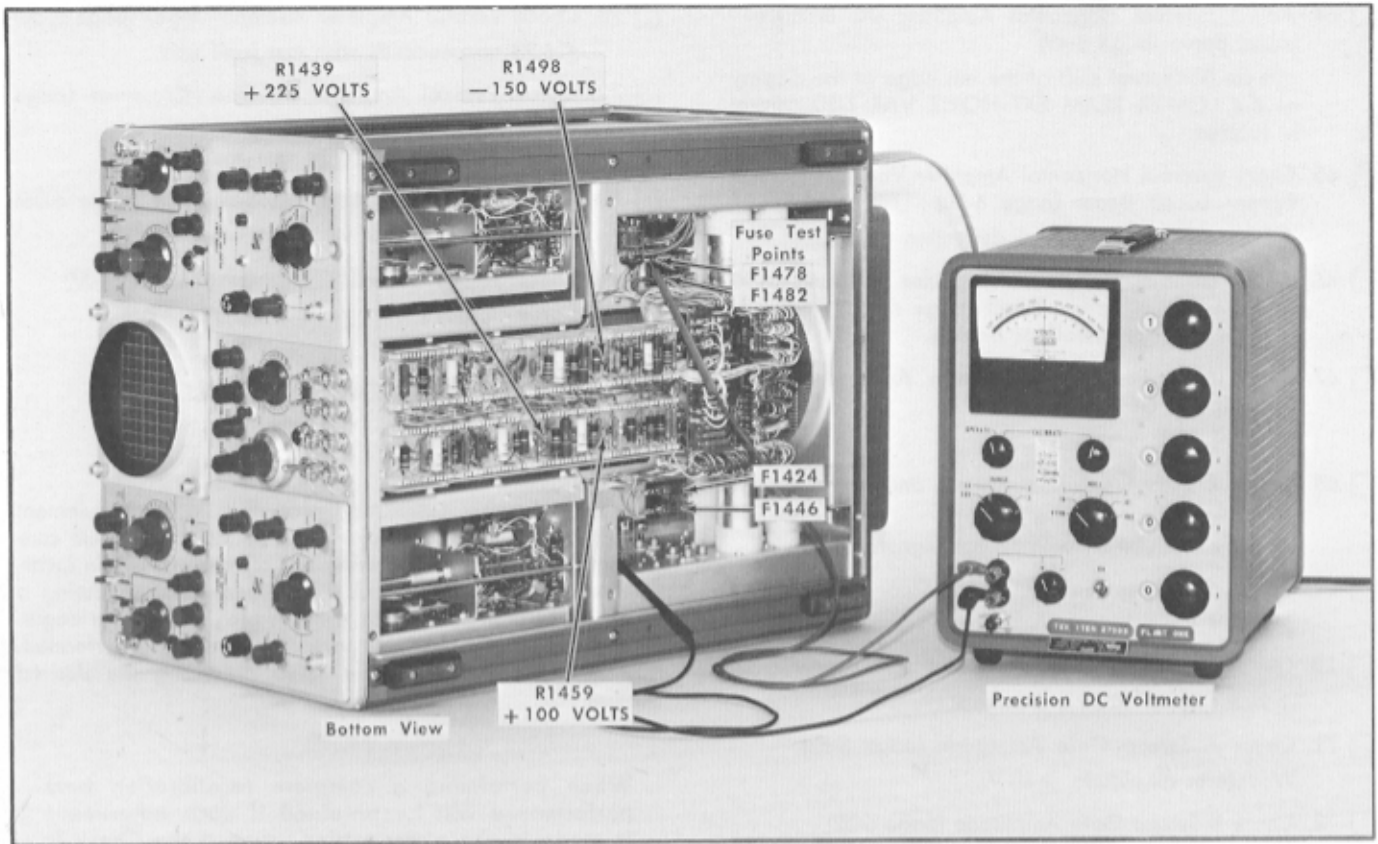

Fig. 6-4. Initial test setup for power supply voltage adjustment.
- a. The initial test equipment setup is shown in Fig. 6-4.
- b. Set the precision DC voltmeter (item 7 of Recommended Equipment) to the -150 volt range.
- c. Connect the voltmeter negative lead to the output end of fuse F1482 (Fig. 6-4), and connect the positive lead to chassis ground.
- e. Adjust R1498 (Fig. 6-4) for a reading of -150 volts.
- f. Set the voltmeter to the 100-volt range. Connect the positive meter lead to fuse F1478 (Fig. 6-4), and connect the negative lead to chassis ground.
- h. Adjust R1459 (Fig. 6-4) for a reading of $+100$ volts.
- j. Connect the negative meter lead to the $+100$ -volt fuse F1478, and connect the positive meter lead to the $+225$ -volt fuse F1446 (Fig. 6-4).
- l. Adjust R1439 (Fig. 6-4) for a meter reading of $+125$ volts.
- m. Set the meter to the $+350$ -volt range, and connect the positive meter lead to fuse F1424 (Fig. 6-4).